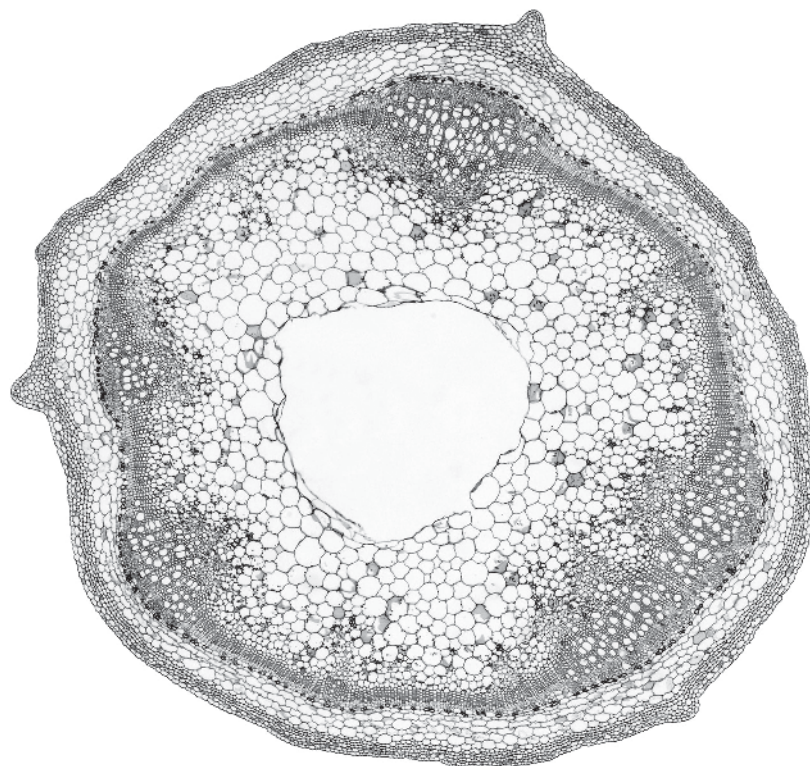

Figure 2.1
- (b) Figure 2.1 is a photomicrograph of a stained transverse section of a different organ from a different plant.
- (i) Identify **three** observable differences, other than colour, between the section on L1 and the section in Figure 2.1.
| feature | L1 | Figure 2.1 |
- (ii) Use your observations in **2(b)(i)** to identify the type of plant organ on **L1** and the type of plant organ in Figure 2.1.
plant organ in Figure 2.1 .....
- (c) Figure 2.2 is the same photomicrograph as that shown in Figure 2.1.